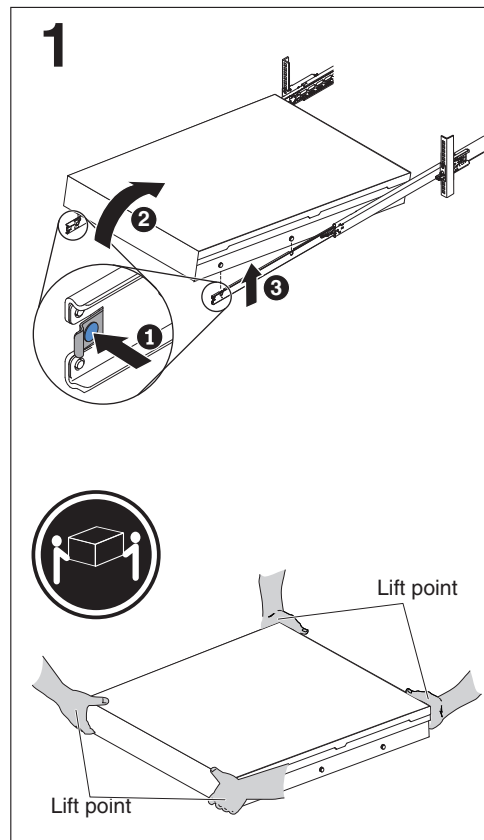

Figure 32. Removing the SAN Volume Controller 2145-DH8 from the rack
Note: If you are removing a 2U server, make sure that you have two people when you lift the server; position their hands as shown in Figure 32 on page 43.
4. Pull the locking levers **1** forward, as shown in Figure 32.